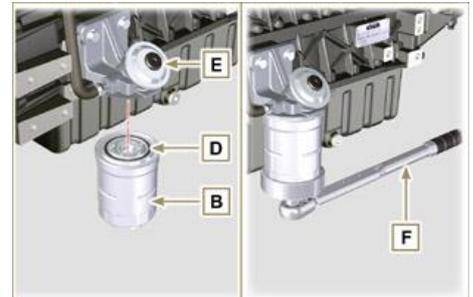

Fig 6.10
3. Loosen the cartridge **B** using the appropriate wrench **F** (Fig. 6.10).
5. Tighten the new cartridge **B** (Fig. 6.10) on the diesel fuel filter support **E** using the special wrench **F** (tightening torque of **17 Nm**).